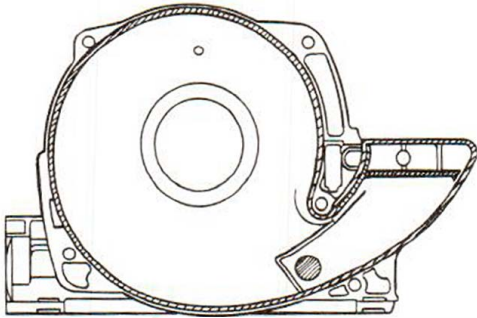

Figure 16. Fan Case Sealant Application
4. Prior to the re-assembly of fan case, clean old sealant from joining surfaces and apply new sealant using sealer 609990 as shown in Figure 16.